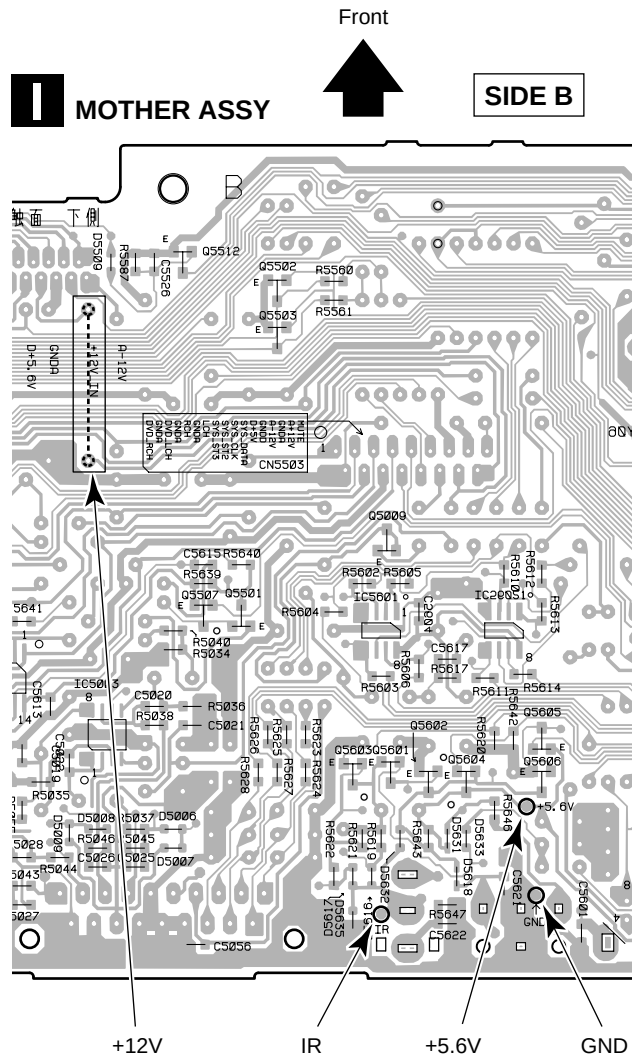

Fig. 1 MOTHER Assy (seen from the solder side)
(2-1) Please supply this from an external power supply. (Fig. 1)
(3-1) Please connect the “remote control light reception jig GGF1270”. (Please supply +5 V from the external power supply of the above item (1). (Fig. 1)